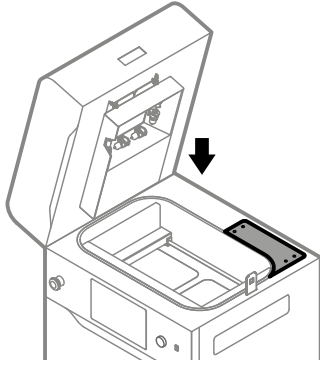

Fig. 12.75 Mount back the access panel
14. Mount back the access panel on the top side of the printer (fig. 12.75).